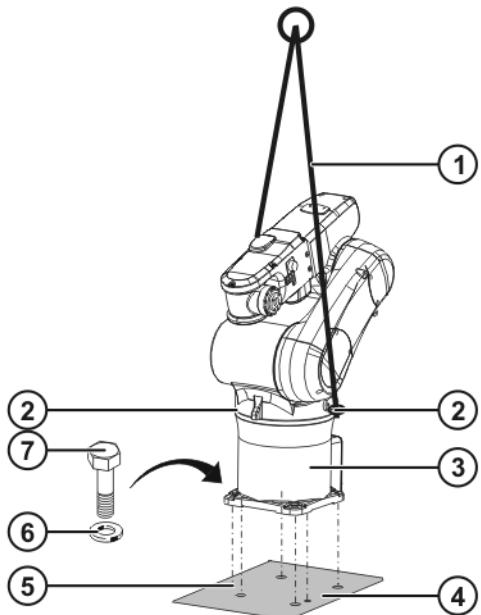

Fig. 8-2: Installing a floor-mounted robot
1. Check that both locating pins (>>> Fig. 8-2) are undamaged and fitted securely.
5. Screw 2 eyebolts (>>> Fig. 8-2) into the base frame and insert the lifting tackle.